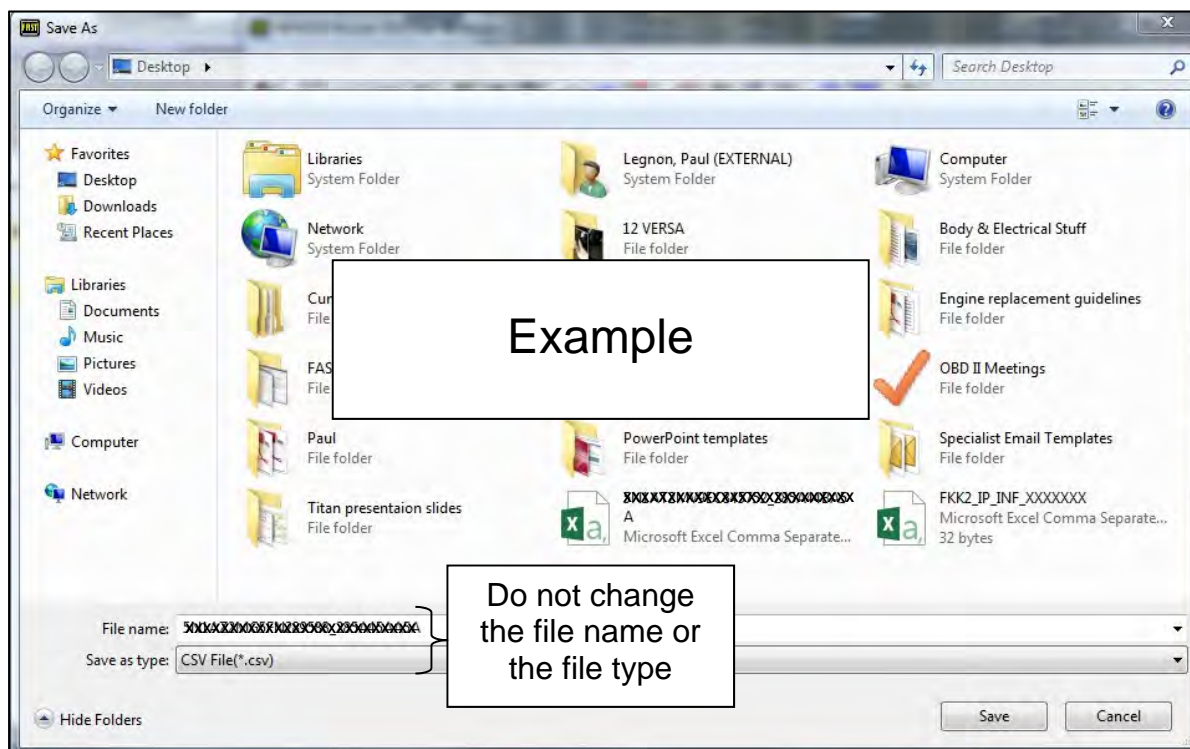

Figure 6
- After selecting the blue CONSULT button in step 6, a screen showing your computer’s desktop with the CSV file should display (see Figure 6, this is the VIN specific configuration file).